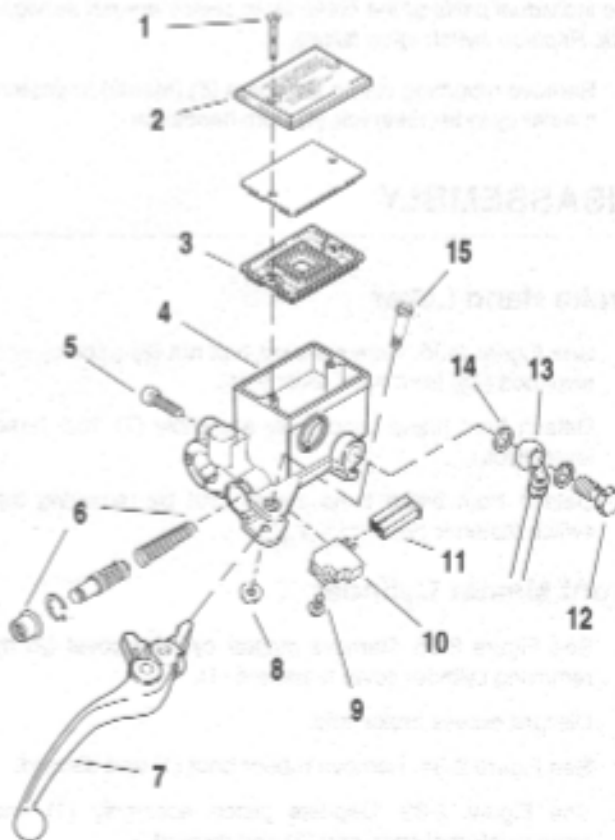

Figure 2-35. Front Brake Hand Lever Assembly
2. See Figure 2-35. Remove the banjo bolt (12) (metric) and two copper washers (14) to disconnect brake line (13) from master cylinder (4). Discard copper washers.
3. Unplug terminal (11) to detach brake lamp switch (10).
1. See Figure 2-35. Remove pivot bolt nut (8) (metric) and pivot bolt (15) from hand lever pivot.
2. Detach front brake hand lever assembly (7) from hand lever pivot.
3. Detach front brake lamp switch (10) by removing the switch fastener (9).
1. See Figure 2-35. Remove master cylinder cover (2) by removing cylinder cover fasteners (1).
4. See Figure 2-35. Insert piston assembly (6), spring first, into master cylinder reservoir (4).
1. See Figure 2-35. Lubricate pivot bolt (15) with LOCTITE ANTI-SEIZE.
2. Align hole in hand lever (7) with hole in hand lever pivot and install pivot bolt (15) through top of hand lever pivot and tighten to 80-120 in-lbs (9-14 Nm).
1. See Figure 2-35. Install front brake lamp switch (10).
- a. Install brake lamp switch (10) with switch fastener (9) and tighten to 7-10 in-lbs (0.8-1.0 Nm).
- b. Connect brake switch terminal (11) to brake lamp switch (10).
3. See Figure 2-35. Connect brake line to master cylinder using two **new** copper washers (14) and banjo bolt (4) (metric) and tighten to 16-20 ft-lbs (22-27 Nm).
5. See Figure 2-35. Remove two master cylinder cover screws (1), cover (2) and cover gasket (3).
9. See Figure 2-35. Attach master cylinder cover (2) and cover gasket (3). Tighten two cover fasteners (1) to 9-13 in-lbs (1.0-1.5 Nm).
3. See Figure 2-35. Remove master cylinder banjo bolt (12) (metric) and two copper washers (14) to disconnect brake line from master cylinder (4). Discard copper washers.
1. See Figure 2-35. Connect brake line (13) to master cylinder (4) using two **new** copper washers (14) and a banjo bolt (12) (metric). Loosely install bolt into master cylinder.
5. See Figure 2-35. Tighten master cylinder banjo bolt (12) (metric) to 16-20 ft-lbs (22-27 Nm).